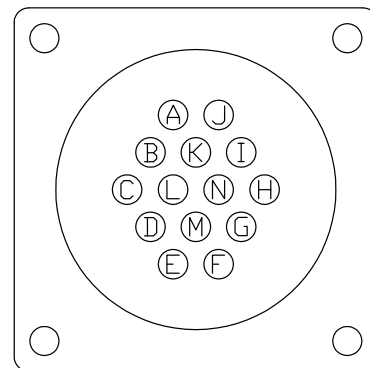

Figure 5-11-1
9. The UV Lamp Sockets are numbered 1 through 6. The wire from each UV Lamp Socket is wired back to the Pinned Receptacle and connected to a pin labeled A through N (refer to Figure 5-11-1). There are two UV Lamp Sockets with wire per Lamp. One is called the UV Lamp Socket Long Wire, the one that runs to the opposite end of the Pinned Receptacle. The other is called the UV Lamp Socket Short Wire, the one that is at the end with the Pinned Receptacle. Identify the wire by number to be replaced.
5. Push the soldered wire pin into the base of the Pinned Socket, for both the Short and Long Wire, at the appropriate letter socket. Refer to Table T-5-11-1 and Figure 5-11-1.